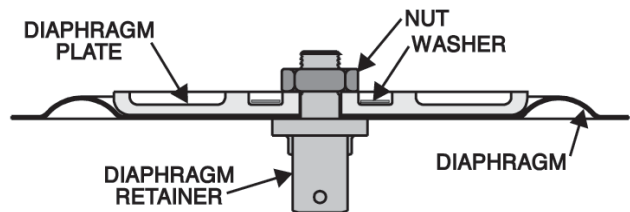

Figure 25 - The Series 20L Pilot Diaphragm Assembly.
4. **Diaphragm Assembly:** Assemble the Pilot Diaphragm with the convex side toward Diaphragm Plate and Main Spring (refer to Figure 25). Tighten nut on the Diaphragm Retainer to approximately 5 to 6 ft-lbs torque.